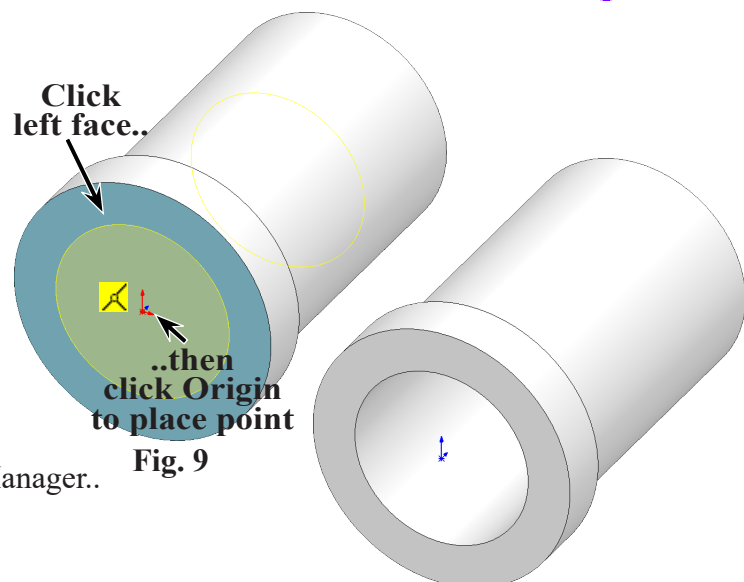

Fig. 9
Step 3. Rotate view to left side, **Fig. 9**.
to place the point, **Fig. 9**.